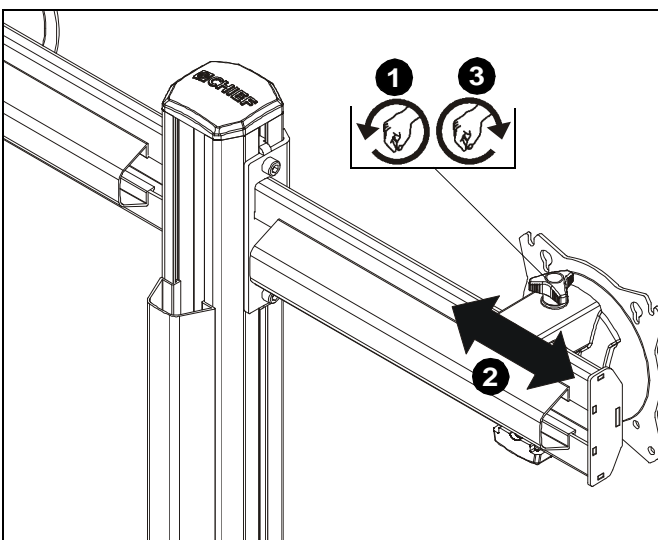

Figure 12
- Loosen knob on top of outside faceplate assembly until faceplate can slide freely along array arm. (See Figure 12)
- Adjust lateral position as desired. (See Figure 12)
- Tighten knob to secure lateral position. (See Figure 12)